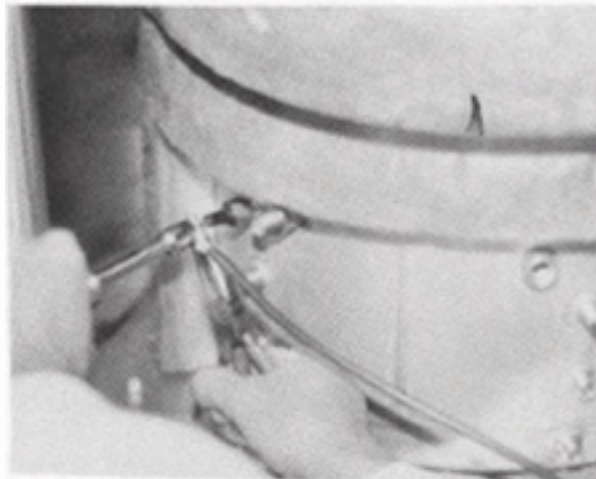

FIG.3
15. Replace the two (2) nuts securing each of the three (3) heater holders to cooking vessel.
19. Place new washer and correct heater wire(s) on heater terminal and utilizing caution, hold heater end behind wire terminal and tighten hex nut (See Figure 3).